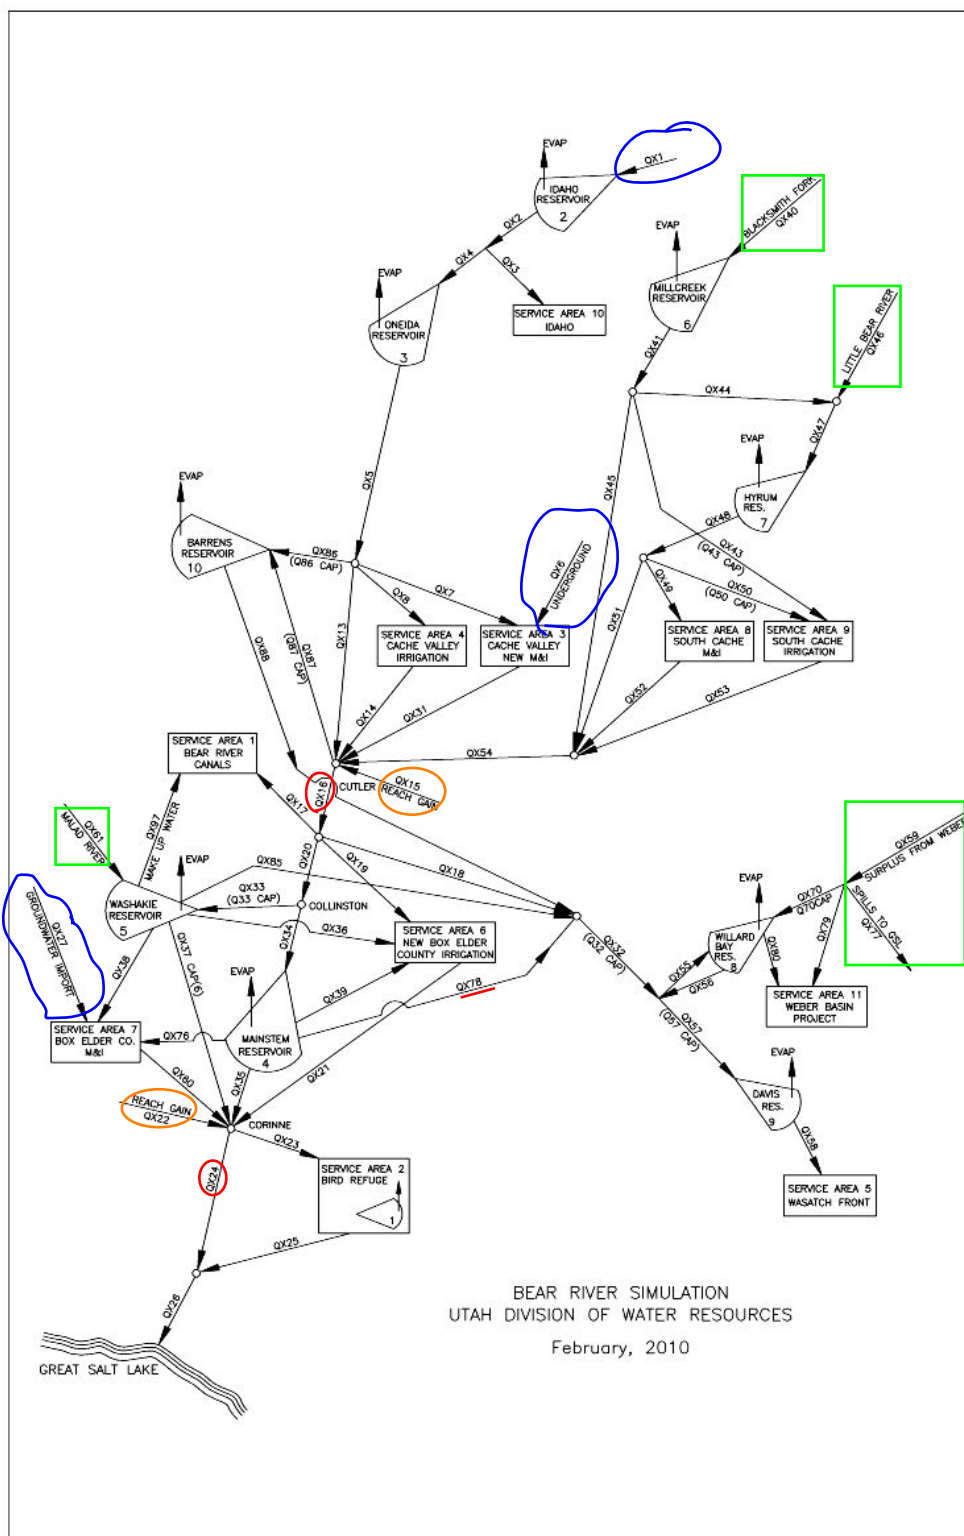

Figure 2. UDWR Bear River simulation model schematic
The UDWR GenRes model (Figure 2) considers inflows along the Bear River, 3 tributaries (Blacksmith Fork, Little Bear, Malad), and 2 reach gains and losses (at the Bear-Little Bear
The UDWR model also includes 4 existing reservoirs (Idaho, Oneida, Hyrum, and Willard Bay) and 5 proposed reservoirs (Barrens, Washaskie, Mainstem, Davis, and Millcreek). A 6th reservoir now under consideration is termed “Above Cutler” and would be located on the Bear River above Cutler reservoir along the reach labeled QX13 in Figure 2. The Above Cutler reservoir could also supply water to Cache Valley users.
6. Note that this project includes most of the schematic elements for the Lower Bear River Basin but a few are missing! Compare the WEAP schematic to Figure 2.
- a. To add a Demand Site (Service Area in Figure 2), go to the top box and check *Demand Site*.
11. *Headflows.* **Headflows** are the most upstream flow inputs to river elements in the WEAP model and are indicated by the corresponding most-upstream arrows in Figure 2 on each river. Each arrow is also labeled with a name. To assign headflow data:
12. *Reach inflows.* **Reach inflows** are local or tributary inflows (sometimes called reach gains) that flow into a river at downstream locations. These reach inflows are also indicated by arrows in Figure 2 and labeled by source (QX15-Reach Gain; QX22-Reach Gain). These inflows have already been entered in the WEAP model. To which reaches are the gains assigned?
13. *Demand Sites*. Demand sites are locations where water is desired to be used and are represented by boxes in Figure 2. In the schematic, right click one of the Demand Sites you added in Step 7a. Select **Edit Data=>Method**. A data window will open.
14. *Transmission Links*. In the schematic, right click on a *Transmission Link* you added in Step 7c and select **Edit Data=>Maximum Flow Volume**. Leave nearly all settings at their default values (i.e., unlimited capacity, no losses, and no costs). On the **Supply Preference** tab, verify that transmissions from the **Bear River have highest priority (1) and that transmissions from other sources (the Malad River, groundwater, etc.) have lower priority (2)**.